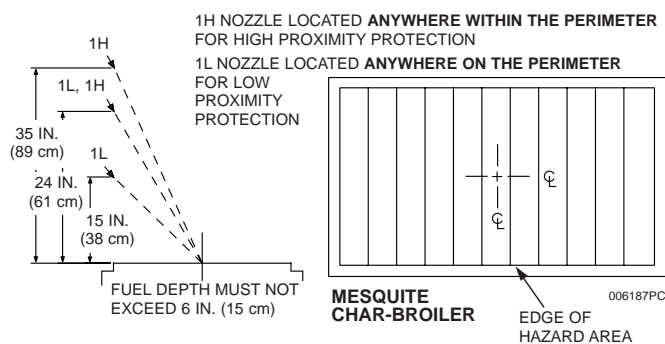

Figure 3-14.
The 1H nozzle, Part No. 551029, is used for high proximity mesquite char-broiler protection. This nozzle is a one (1) flow nozzle. The nozzle must be located **anywhere within the perimeter** of the hazard area, 24 in. to 35 in. (61 to 89 cm) above the cooking surface of the appliance and aimed at the center of the broiler surface. See **Figure 3-14**.
The 1L nozzle, Part No. 551026, is used for low proximity mesquite charcoal char-broiler protection. This nozzle is a one (1) flow nozzle. The nozzle must be located **anywhere on the perimeter** of the hazard surface, 15 in. to 24 in. (38 to 61 cm) above the cooking surface of the appliance and aimed at the center of the broiler surface. See **Figure 3-14**.